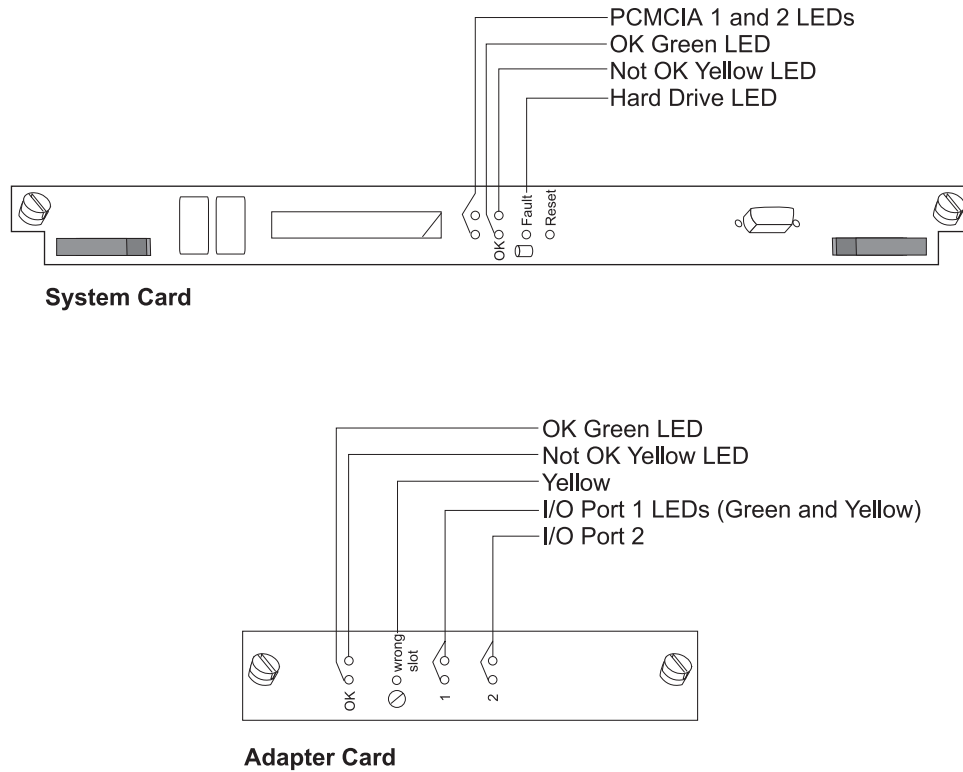

Figure 2. System Card and Adapter Card LEDs
2. Connect the power cord to the Network Utility and the power outlet (to power on the unit). After about 4 to 5 minutes, verify that the correct LEDs are on (see Table 3 on page 11). Monitor the LED states as shown in Figure 2 on page 12.
Table 3 shows the correct state of each LED on the front of the unit after it has completed booting (**about 4-5 minutes after a power-on**). If all LEDs are in the correct state, you can begin to configure the unit. See Figure 2 on page 12 for the locations of the LEDs on the Network Utility.